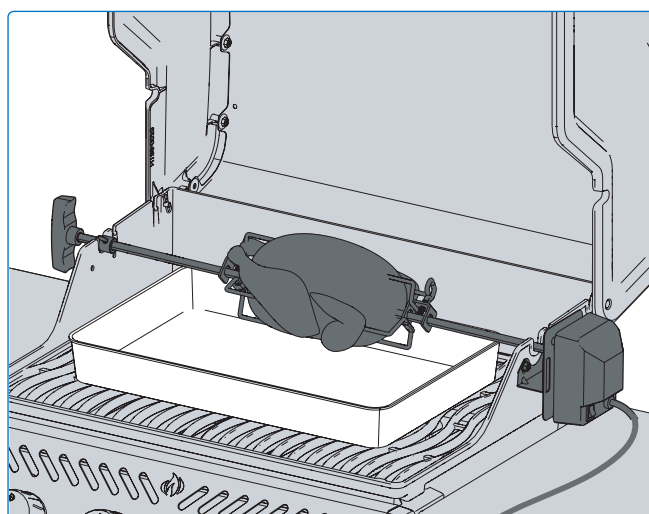

Fig. 15
- Be sure to always set an evenly balanced load on your rotisserie (**Fig 15**).